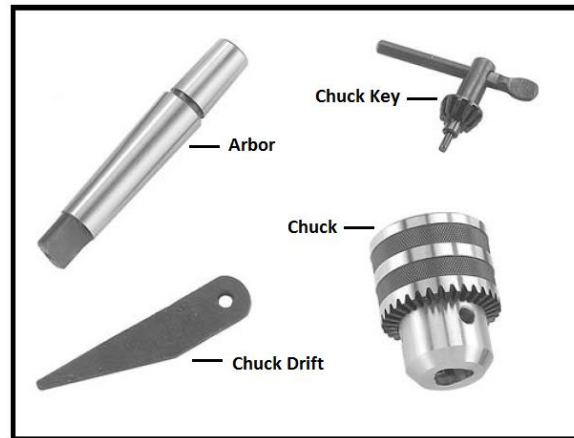

Figure 8 - Chuck components
2. Slide the arbor into the spindle socket while slowly rotating the drill chuck. The Seating arbor into the drill chuck (left) shown in **Figure 8**.
5. With the chuck jaws fully retracted, arbor and chuck upward with a hammer on a wood block or a soft hammer to fully seat the arbor and the chuck. The Seating arbor and chuck into spindle (right) shown in **Figure 8**.